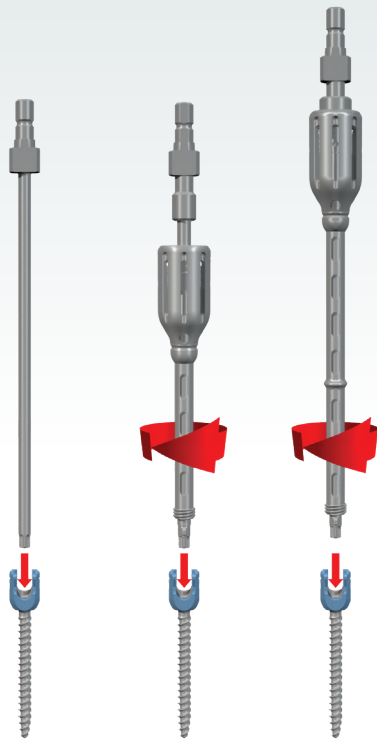

Figure 10
3. Attach the screw to the selected Vital Power Pedicle Screwdriver by inserting the driver tip into the female T27 hexalobe on the screw shank. Make sure the screw shank is straight and aligned with the shaft of the inserter (**Figure 10**).